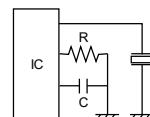
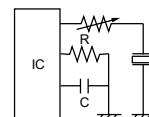

Fig.1
Fig.2
- (1) When capacitors or resistors are used to change the phoning frequency, the timbre may be distorted. (See Fig. 1)
- (2) Various types of Ringer ICs are made by various manufacturers. Please refer to us or the IC manufacturer for IC application.
- (3) When distortion, as on (1) above, has occurred, a resistor should be used as shown in Fig. 2. A suitable resistance value should be chosen, preferably $1\text{k}\Omega$ - $2\text{k}\Omega$. Instead of this measure, a diode may also be applied as shown in Fig. 3.